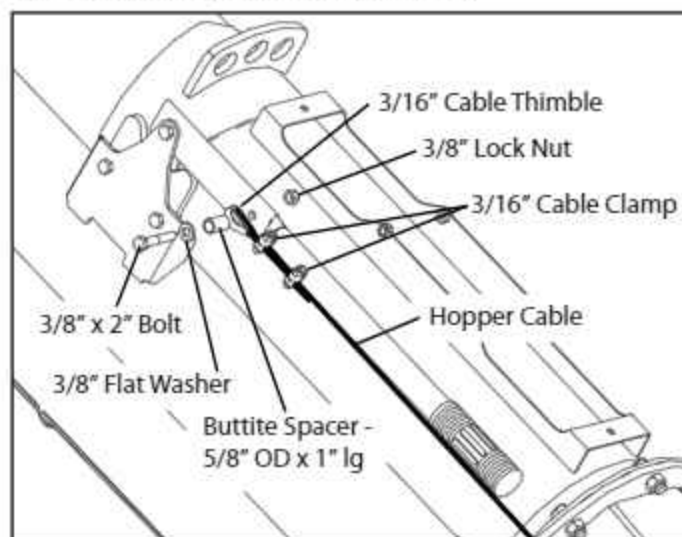

FIG. 3-80. Completing the Hopper Handle Ass'y
3. Attach the 3/16" Cable Thimble, the 1" long Buttite Spacer and a 3/8" flat washer to the Handle using a 3/8" x 2" bolt and lock nut. See Fig. 3-80.